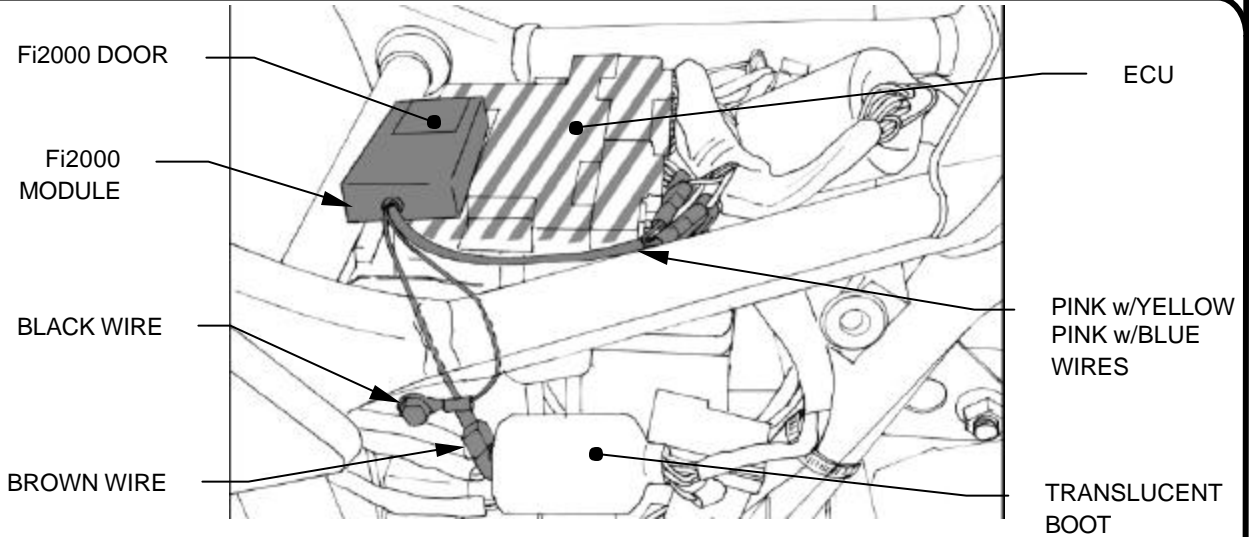

FIGURE 1
3. Locate the BROWN wire in the wiring loom on the right side of the motorcycle where the side cover was (the wire comes out of the translucent boot) Attach a supplied t-tap connector on that wire. Refer to figure 1
4. Place the CORBA Fi2000 module on top of the factory ECU towards the center and the rear. Refer to figure 1
5. Feed the BROWN and BLACK Fi2000 module wires down from the top, behind the side frame rail. Refer to figure 1
6. Attach the Fi2000 BROWN wire to the t-tap connector on the BROWN wire and then attach the ring connector on the BLACK wire to the 10mm bolt directly above that connection. Refer to figure 1
7. On the front right side of the factory ECU find the PINK w/BLUE stripe and PINK w/YELLOW stripe wires coming out of the ECU. Attach the t-tap connectors to each of those two wires and then plug the corresponding colored wires from the Fi2000 to each of those t-tap connectors. Refer to figure 1.
8. Remove the backing from the Velcro and attach the Cobra module to the top of the ECU as shown in figure 1.
9. Before re-installing the seat and side cover, verify your connections. Remove the door from the Fi2000 box to expose the LED's. Verify the wire connections by (1) turning the ignition on, prior to starting, and see if all three LED's are on steady. If you have no light, either your ground connection (BLACK wire) is not solid or, (more likely) your BROWN wire connection is incorrect. You have either tapped on the wrong wire or the tap has not made contact. (2) After achieving a steady light from all three LED's, start the motorcycle and let it idle, the green light should now be the only LED on. If all three LED's are still on after start up, your PINK w/BLUE stripe wire connection is incorrect; if all three LED's are flashing, your PINK w/YELLOW stripe wire connection is wrong. Again verify correct color and tap contact. Reattach the door when finished. **Note:** Make sure the ignition is turn off before changing any connection.